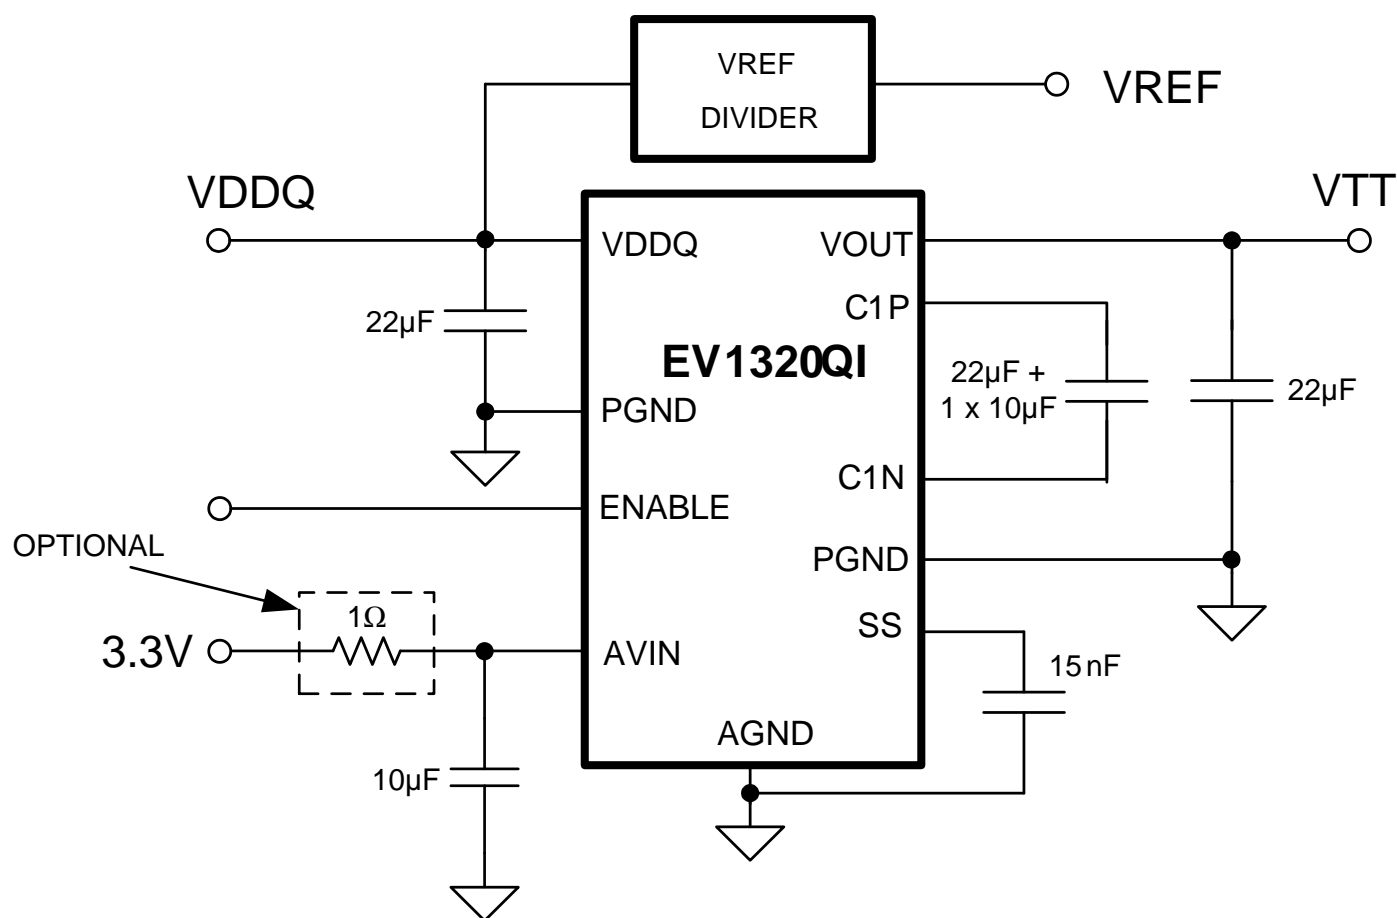

Figure 6. General Application Circuit for 2A Operation
Figure 6 shows a typical application circuit for the EV1320QI. The resistor before the AVIN capacitor is optional, but recommended if AVIN supply is noisy.
**Recommendation 5:** AVIN is the power supply for the internal control circuits. It should be connected to the 3.3V bus at a quiet point. A 10 $\mu$ F bypass capacitor (shown on the backside in Figure 9) is needed on the AVIN node. If the AVIN supply is noisy, an optional 1 $\Omega$  resistor is recommended in series with AVIN. See Figure 6.